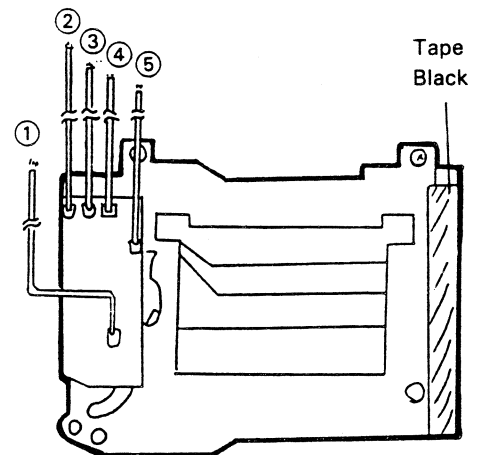

Fig. 32
* After removing the Shutter, be sure to attach the IC Tape (black) as shown in Fig. 32.
- (1) Brown Lead Wire (X Contact)
- (2) Green Lead Wire (Rear Curtain Mg)
- (3) Dark Blue Lead Wire (Mg (f))
- (4) Black Lead Wire (GND)
- (5) Blue Lead Wire (Front Curtain Mg)